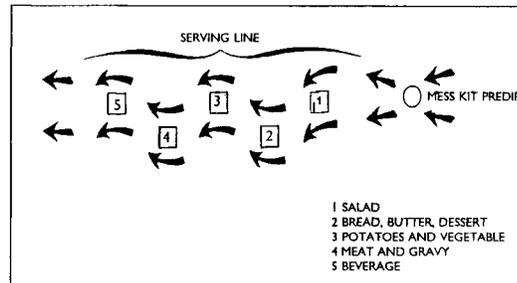

Figure 3-17. Serving lines under threat of attack
- (1) Place serving tables approximately 5 yards apart.
- (2) Set up serving tables in a staggered line. See Figure 3-17.